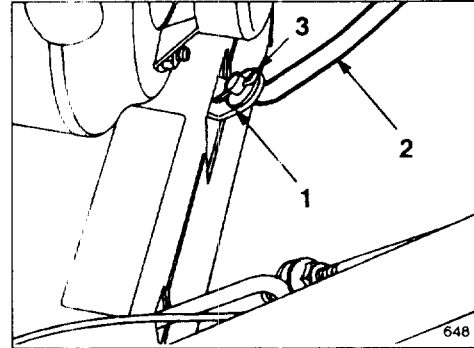
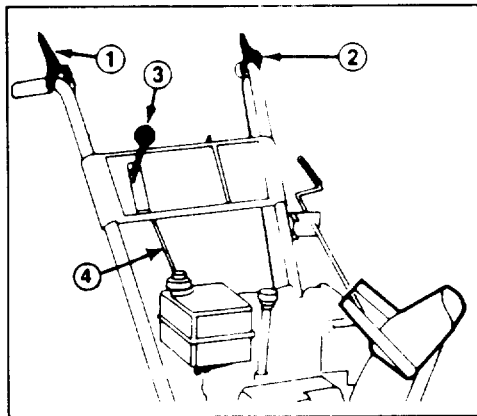

Figure 4
Figure 6
1. Pull speed selector arm (Fig. 4) to the fully "out" position and move speed selector (Fig. 6) on control pan-
2. Install speed selector rod into selector arm, add one flat washer on the selector rod and secure with cotter pin (Fig. 4).
4. Adjust the two flange nuts up or down on the traction control rod until the distance between the top of the handgrip and the bottom of the traction control lever (Figs. 6 and 7) is approximately four inches. **This is a preliminary setting only.** Tighten the two flange nuts finger tight.
5. Move speed selector (Fig. 6) into third gear.
3. Check the distance between the top of the handgrip and the bottom of the auger control lever (Figs. 6 & 9). Distance should be approximately four inches. **This is a preliminary setting only.**